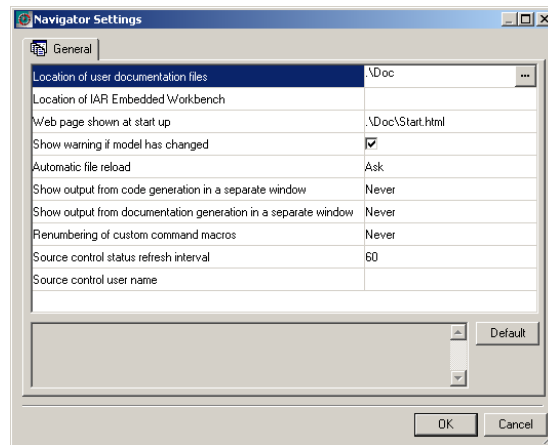

Figure 13: Navigator Settings dialog box
- 1 Launch the Navigator, and choose Tools>Settings. A dialog box is displayed. See Figure 13, page 20.